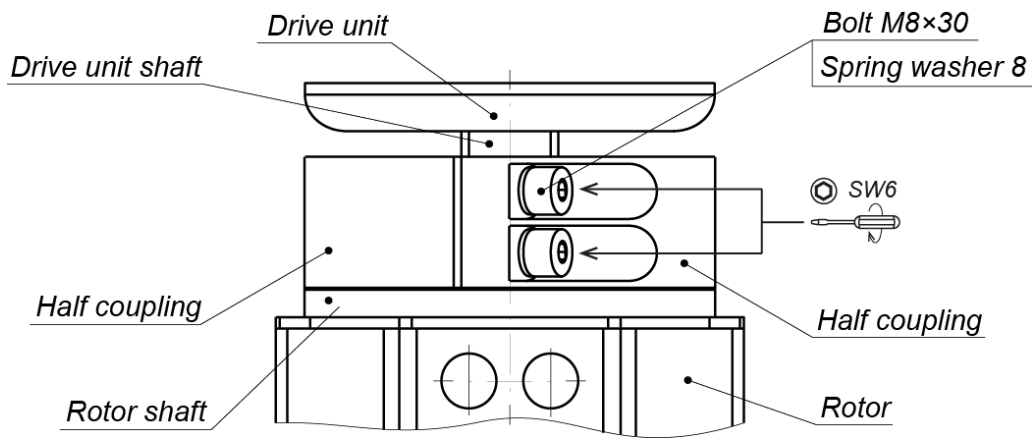

Figure 19. Junction (4) of the operating mechanism shaft with the rotor shaft by the union joint (1)
- Join together the upper rotor shaft with the shaft of the drive unit of operating device with two half couplings, four bolts M8×30 and spring washers (hex-nut wrench SW6) (Fig. 19).
2. Unscrew 4 bolts M8 from the union joint (4) and take off the half couplings (Fig. 19). Be carefully! Keep the rotor and half couplings from falling down.